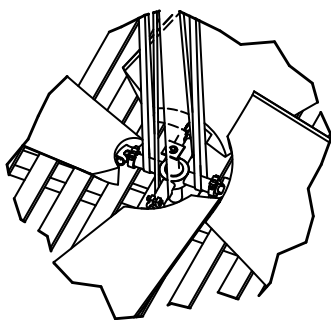

Figure 36. Attached to Blade Shanks
2. Wrap or loop slings around blade shanks (**Figure 36**).